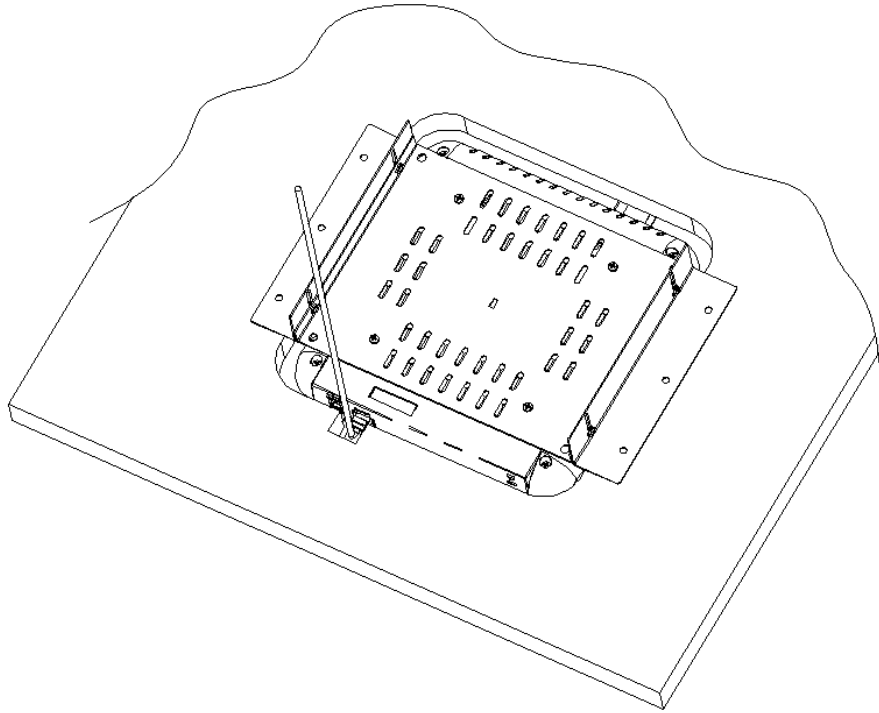

Figure 10: Finished Side of Tile
5. Bring entire assembled kit (including tile) to suspended ceiling and attach LAN cable into BSAP-1700 unit as shown in Figure 10. If cable is tight, shift unit until cable has enough relief. After cable is wired in, place ceiling tile back to desired location. The assembly may need to shift so trim plate will cover all openings in the ceiling tile.